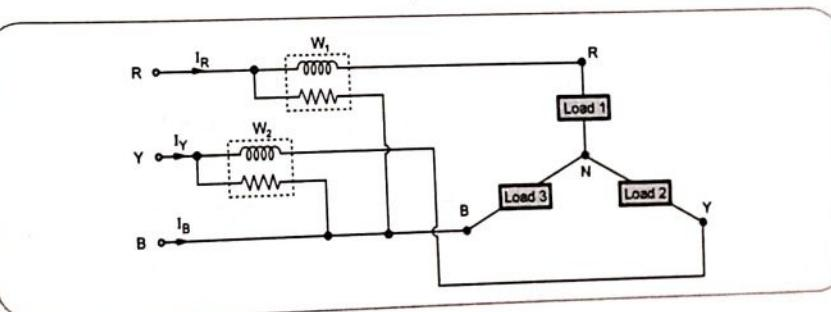

Fig. 4.14.1
• Consider star connected load and two wattmeters connected as shown in the Fig. 4.14.1.